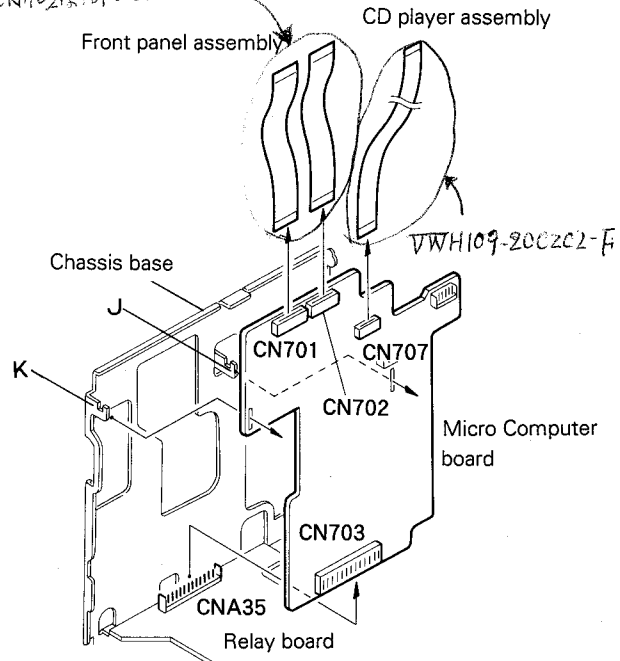

Fig. 7-12
■ **Micro Computer board** (Fig. 7-12)